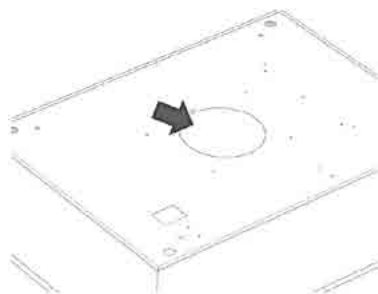
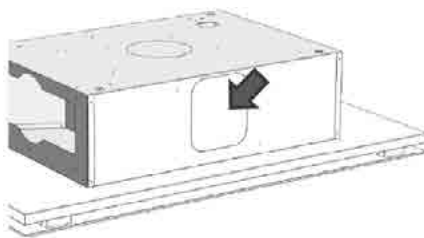

FIG.16
FIG.17
- › Open the hole in the middle of the upper side hood (Fig.16) or in the long side (Fig.17).